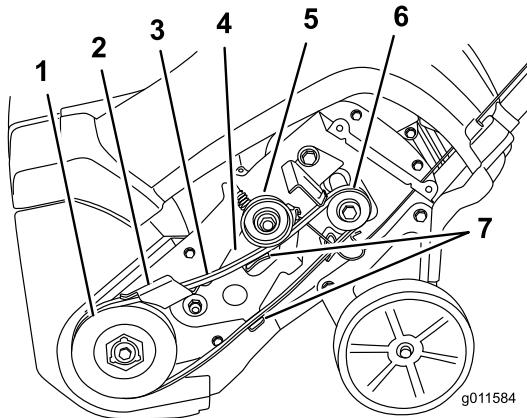

Figure 33
**Important:** Ensure that you install the drive belt so that it sits above the two tabs on the idler arm and below the idler arm brake (Figure 33).